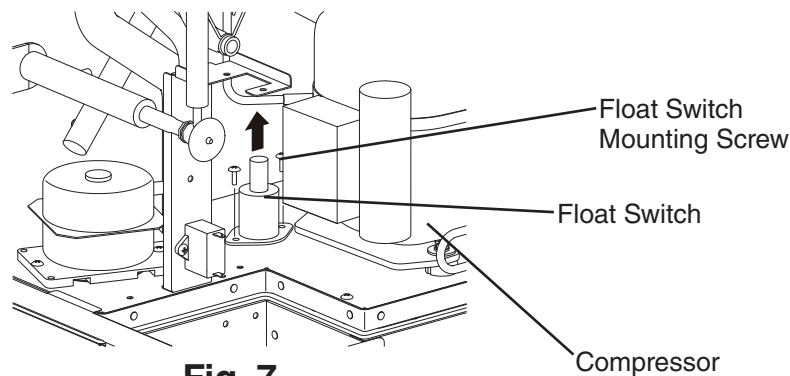

Fig. 7
- 4) Locate FS on the compressor base. See Fig. 7. Remove the screw securing FS to the compressor base and lift FS from the icemaker.